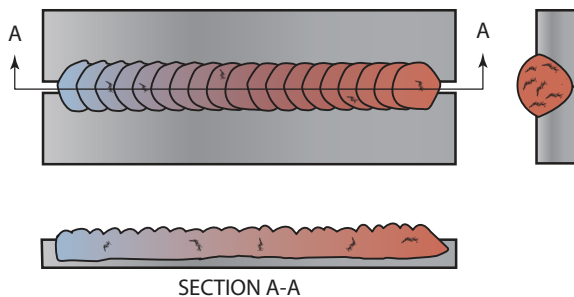

FIGURE 30-4 Piping or wormhole porosity.
- Piping porosity, or wormhole, is most often caused by contamination at the root, Figure 30-4. This porosity is unique because its formation depends on the gas escaping from the weld pool at the same rate as the pool is solidifying.